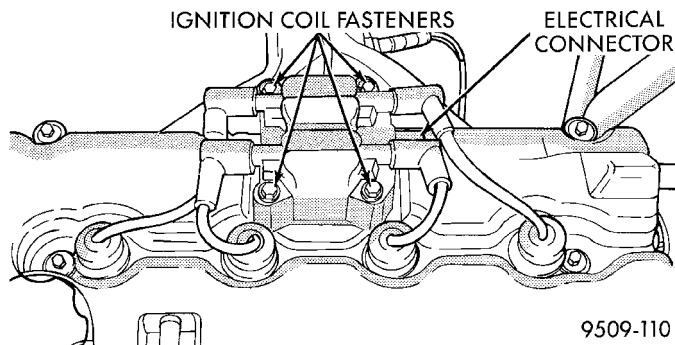

Fig. 61 Ignition Coil and Spark Plugs
(9) Inspect the ignition coil electrical connector. Ensure the spark plug insulators are firmly seated over the spark plugs (Fig. 61).